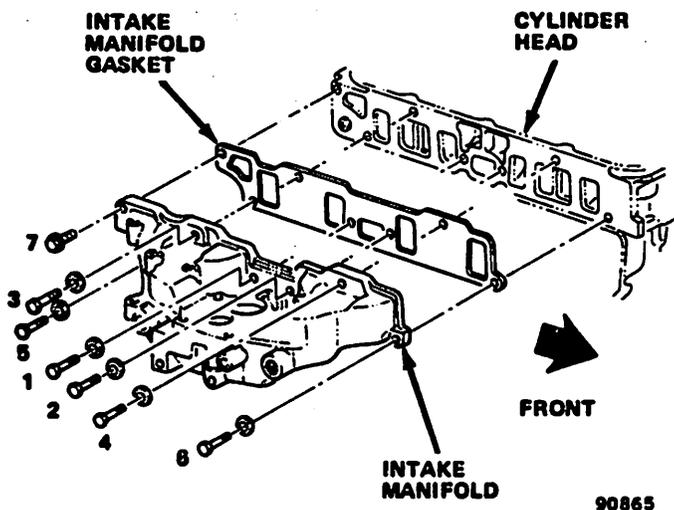

Fig. 1B-23 Intake Manifold Bolt Tightening Sequence
- (3) Drain cooling system.
- (4) Tag and remove vacuum hoses (ensure distributor vacuum advance hose is removed).
- (5) Disconnect fuel pipe and electrical wire connections from carburetor.
- (6) Disconnect carburetor throttle linkage. Remove carburetor and carburetor spacer.
- (7) Remove bellcrank and throttle linkage brackets and move to one side for clearance.
- (8) Remove heater hose at intake manifold.
- (9) Remove air pump and bracket, if equipped. Note position of spacers for installation.
- (10) Remove manifold-to-cylinder head bolts and remove manifold.
- (11) Position replacement gasket and install replacement manifold on cylinder head. Start all bolts.
- (12) Tighten manifold-to-cylinder head bolts using sequence illustrated in figure 1B-23. Tighten all bolts with 37 foot-pounds (50 N•m) torque.